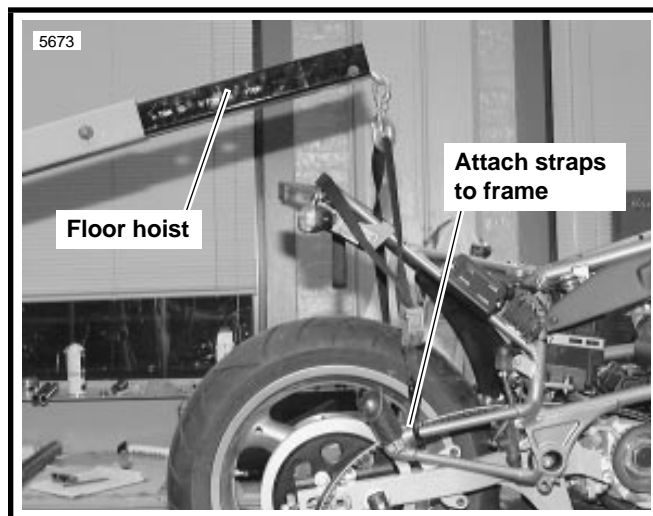

Figure 3-1. Floor Hoist
3. See Figure 3-1. Place a floor hoist behind the lift. Attach straps to frame and hoist. Raise hoist until straps tighten.